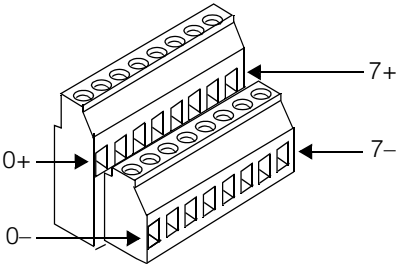

Figure 8. Pin numbering for input terminal block
6. Connect wires from your I/O input devices to the plus and minus terminals of the input block of the external I/O module. Use the pin numbering in Table 8 as a guideline. Figure 8 shows the pin numbering for the input terminal block.